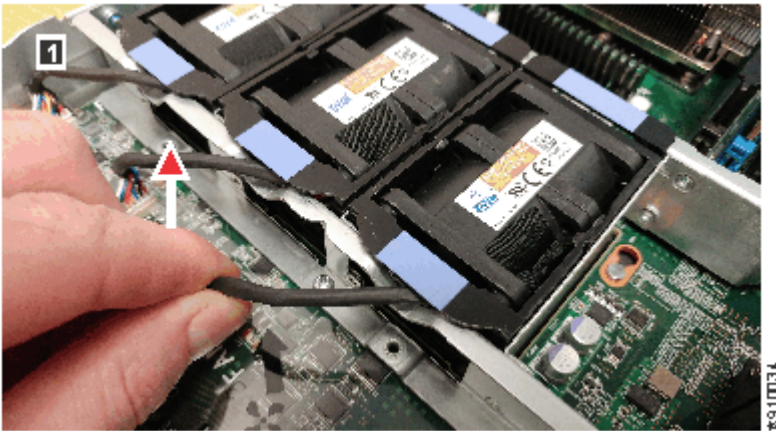

Figure 104. Removing the fan cable
6. Carefully disconnect the fan cable from the system board of the node canister, as shown in Figure 104 on page 143.